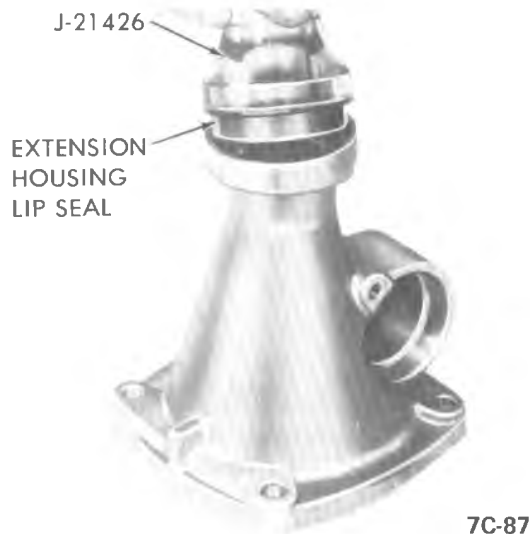

Figure 7A5-91
4. Attach extension housing to case. Torque to 25 ft. lb. If necessary, install a new extension housing seal using Seal Installer J-21426 (Figure 7A5-91).